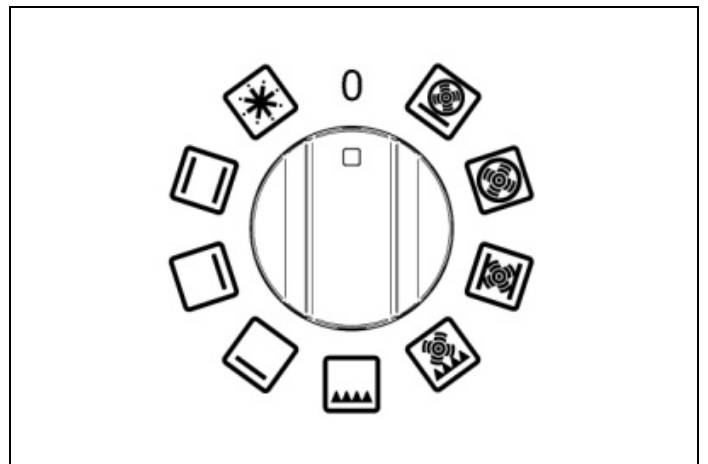
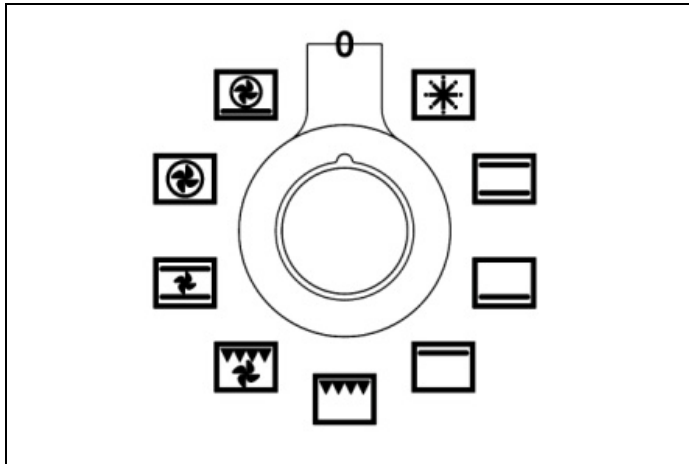
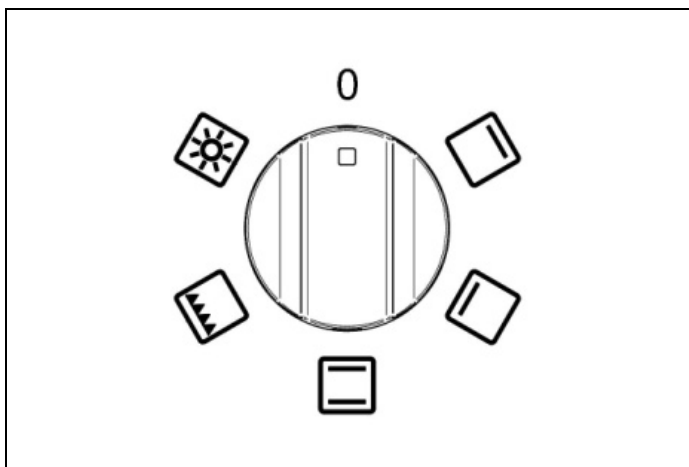
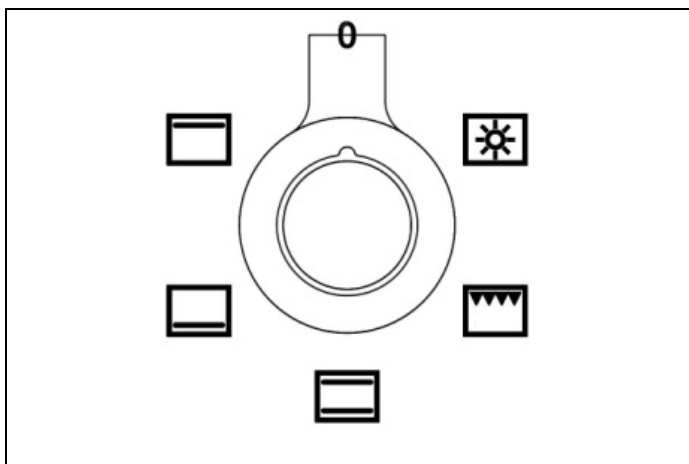

Fig. 19
Fig. 20
Fig. 21
Fig. 22
- 1) Turn the functions knob (Fig. 19 -Fig. 20 and Fig. 21 -Fig. 22) clockwise to select the function required.